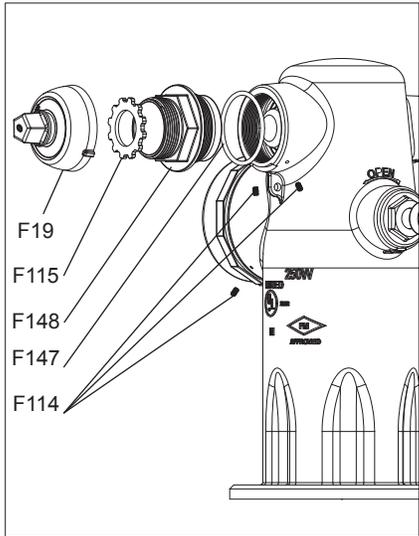
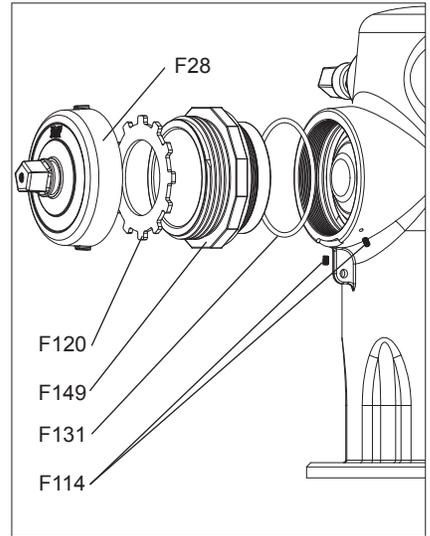
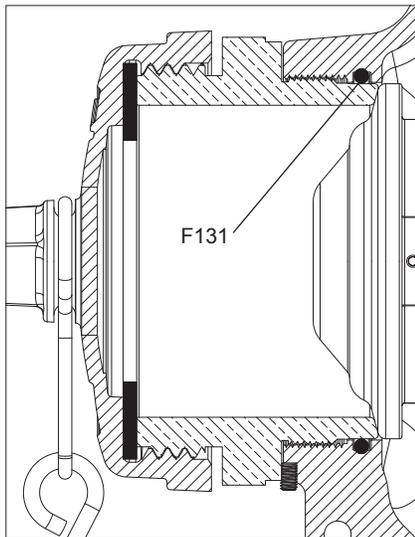

Fig. 3A
Fig. 3C
Fig. 3E
### NOZZLE DISASSEMBLY FOR INSPECTION: FIGURES 3A-3F
3. Use a drift punch and hammer to install a new Nozzle Retaining Screw (F114), as shown in Fig. 3C or Fig.3E.
4. Use a 7/64" or (3mm) Allen wrench to install new Nozzle Retaining Screws\*\* (F114), as shown in Fig. 3A or Fig.3C.